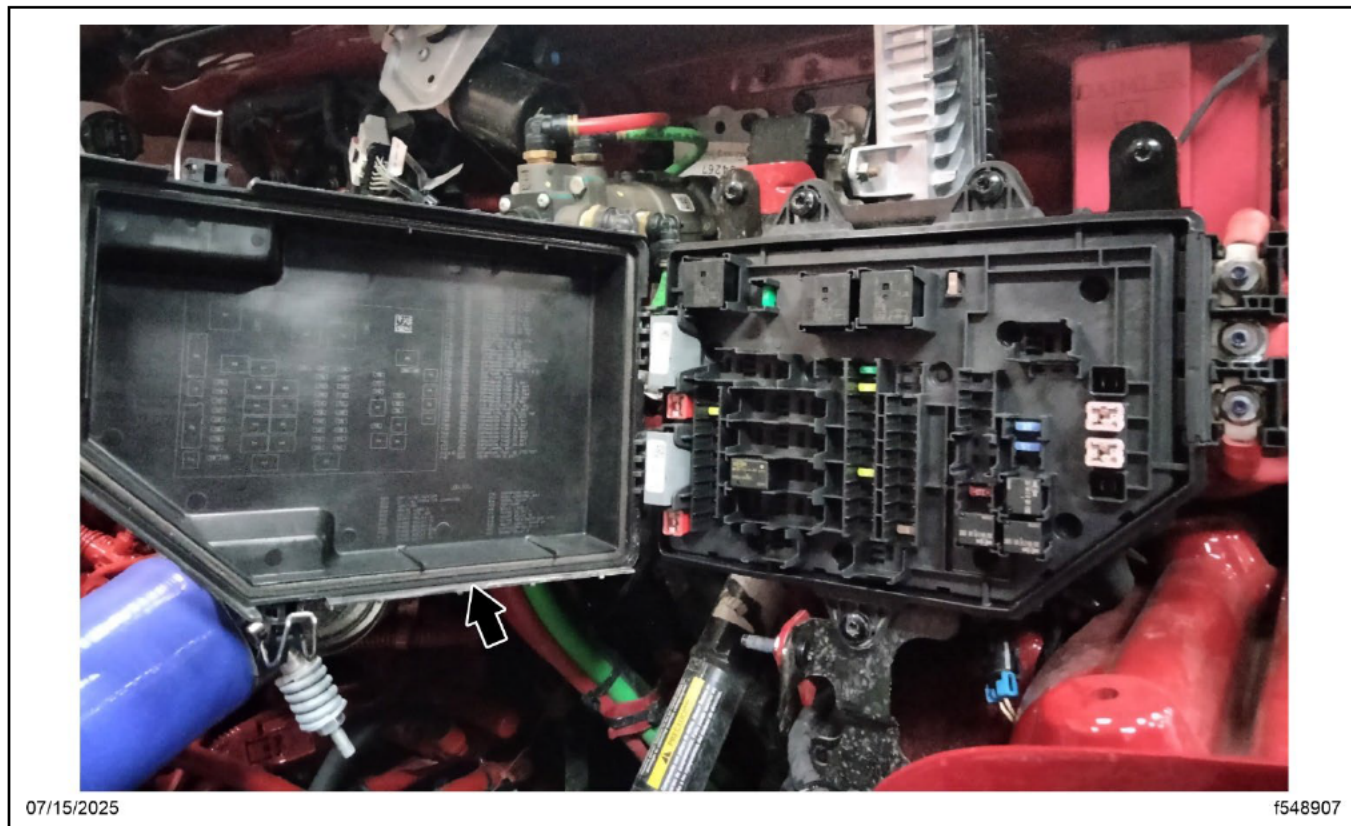

Fig. 3, Opening the VPDM Cover
6. Open and remove the VPDM cover. See Fig. 3.